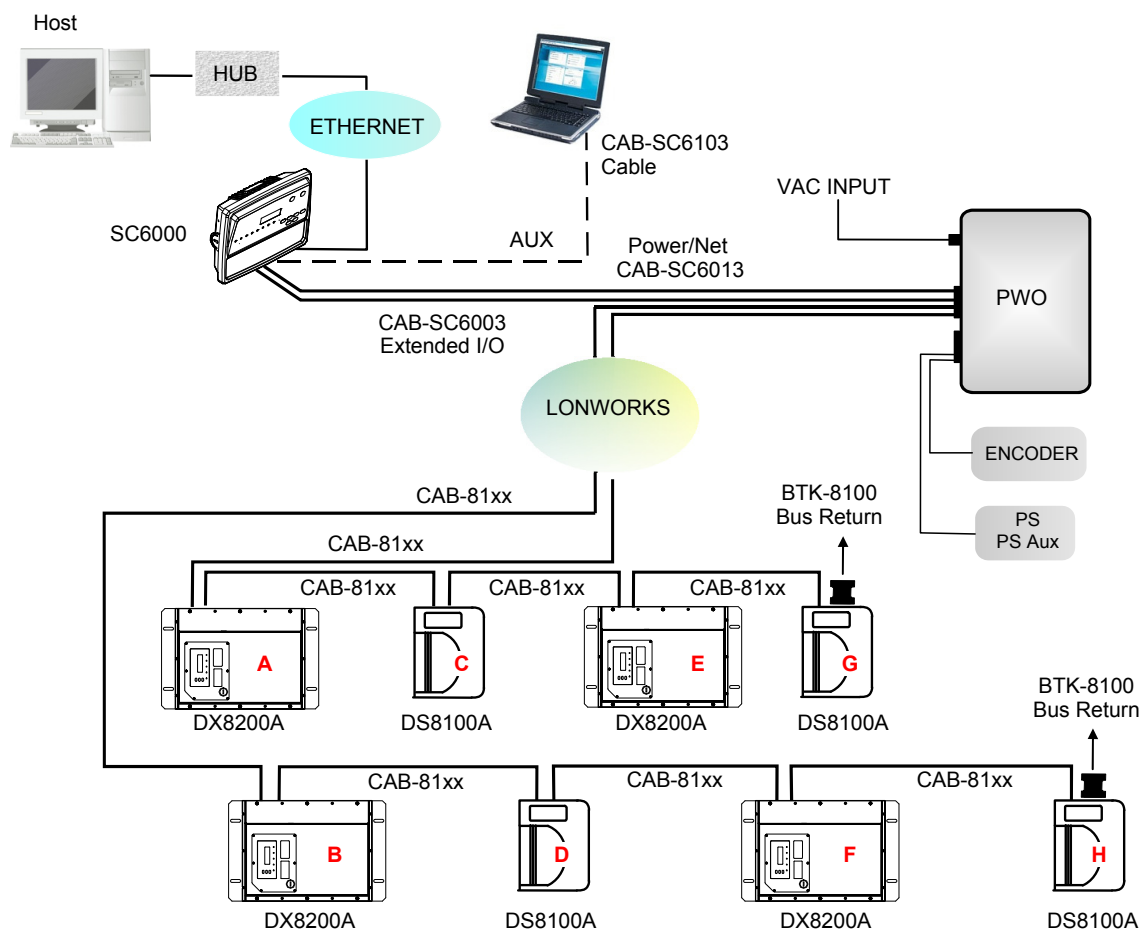

Figure 68 – Large Synchronized Network with DX8200A and DS8100A Scanners
1. Scanner distribution should alternate between odd and even branches so that the station guarantees 50% reading on all sides. See also Figure 68.